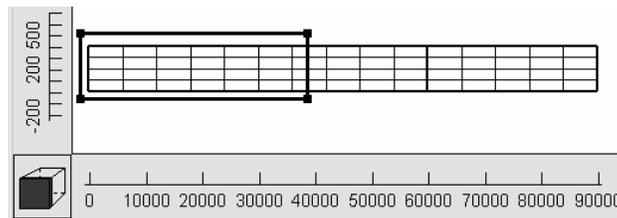

Figure 49. Polygon used to specify the leaky boundary on the front view of the model in example 3.
16. For the front boundary draw a rectangle on the front view of the model that goes from the left edge to approximately 39000 and that covers the entire height of the model (fig. 49). In the **Object Properties** dialog box, select the **Nodes** radio button. Set its **Name** to “Front_Leaky_Boundary.” Check the **Set values of enclosed nodes** checkbox. Set the **Associated third-dimension formulas** to **One**. Set the **Y-coordinate** to 0. On the **Boundary Conditions** tab, select the **Leaky boundary**, set the **Hydraulic conductivity** to $1.5e-5$, the **Thickness** to 20000, the **Head** to 320 and the **Associated solution** to 2. Click **OK** to close the dialog box.